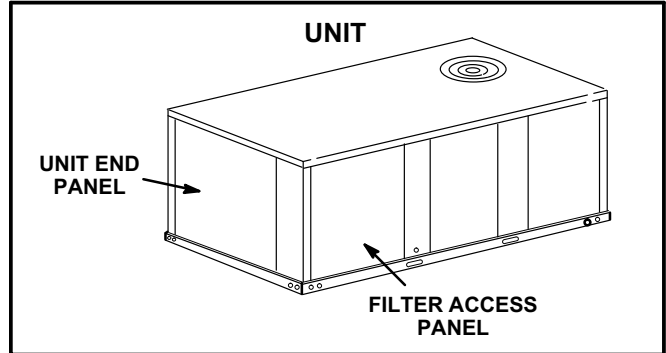

FIGURE 1
- 2- Disconnect all power to unit and open filter access and unit end panel. See figure 1.